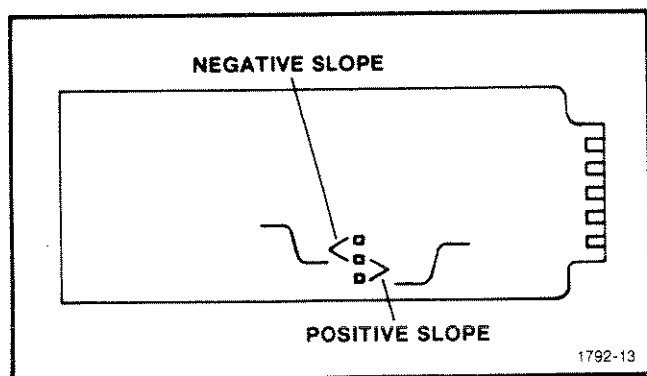

Fig. 4-9. X-Y Output Module strap.
- b. Place the terminal connection link of the OUTPUT MODULE board on the negative slope terminals (see Fig. 4-9).